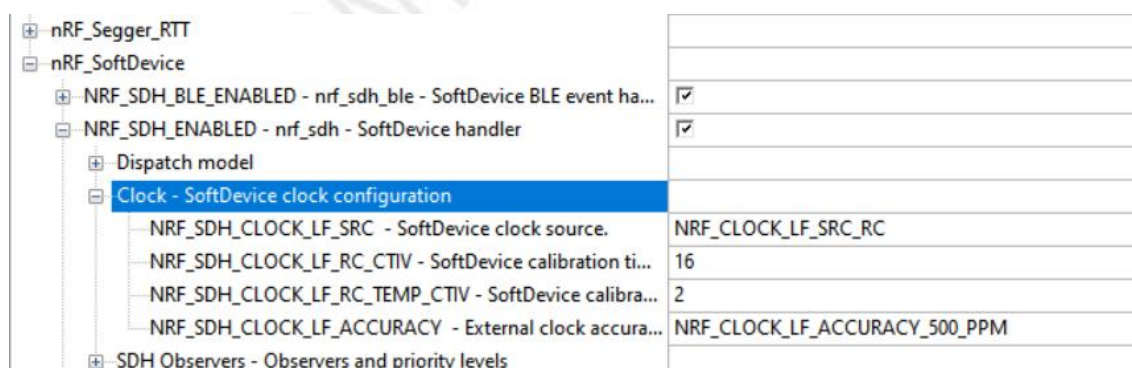

Figure 5.3: NRF_SDH_ENABLED
- Unfold“nRF_SoftDevice”->“NRF_SDH_ENABLED”->“Clock - SoftDevice clock configuration”Please modify as shown in Figure 5.3: